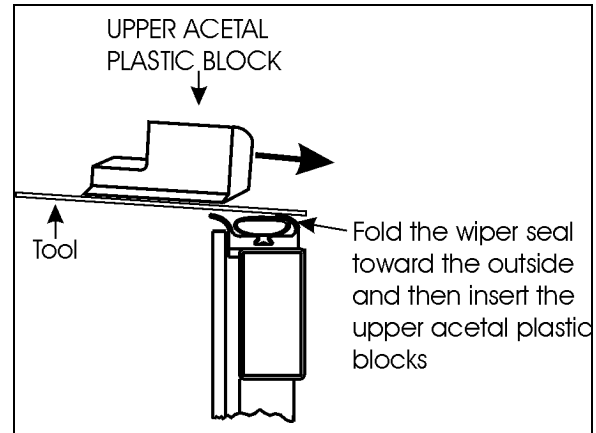

FIGURE 27: LOWER ACETAL PLASTIC BLOCK INSERTION
5. Reinstalling the upper acetal plastic blocks. Fold the wiper seal toward the outside with a flat tool to ease installation (Figure 27). Tighten the mounting screws to a torque of 7 lbf-ft. Leave no gap between the blocks and the rail.